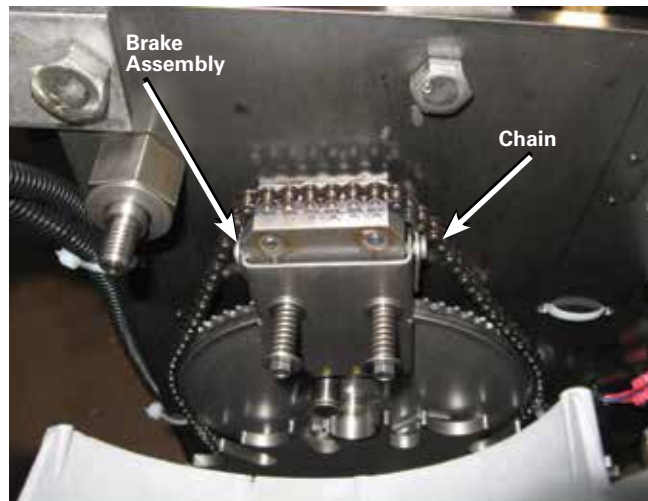

Figure 112. Removal of the chain.
8. Remove the chain from the motor sprocket and set it on the brake assembly. This will prevent the chain from falling in between the Geneva gear and sprocket. Refer to Figure 112. Remove the motor from the tap-changer assembly.